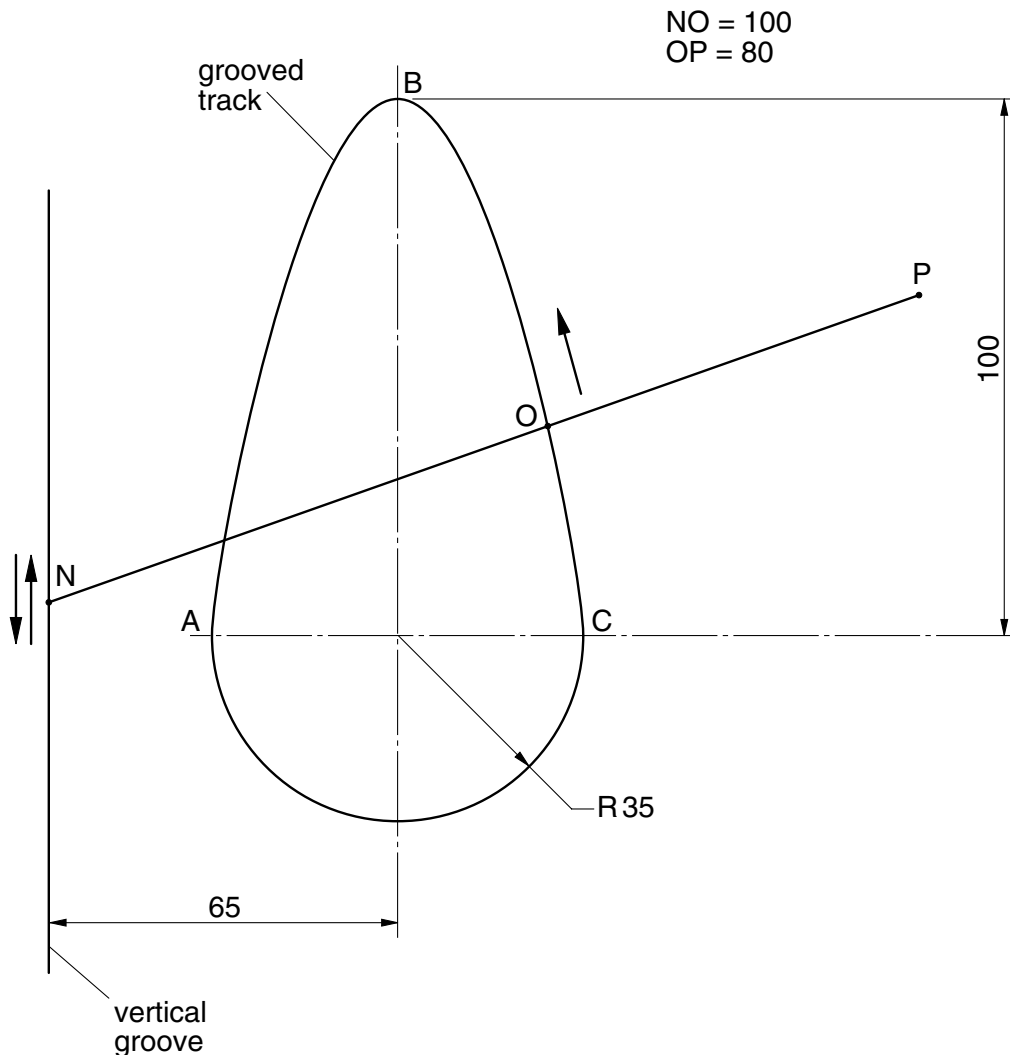

Fig. 1
- 2 The schematic outline of a mechanism is shown in Fig. 1. The parabolic curve ABC and the semi-circle of radius 35 mm represent the centre-line of a grooved track. Point O on the rigid connecting rod NP slides around this groove whilst point N is constrained to slide in the vertical groove.